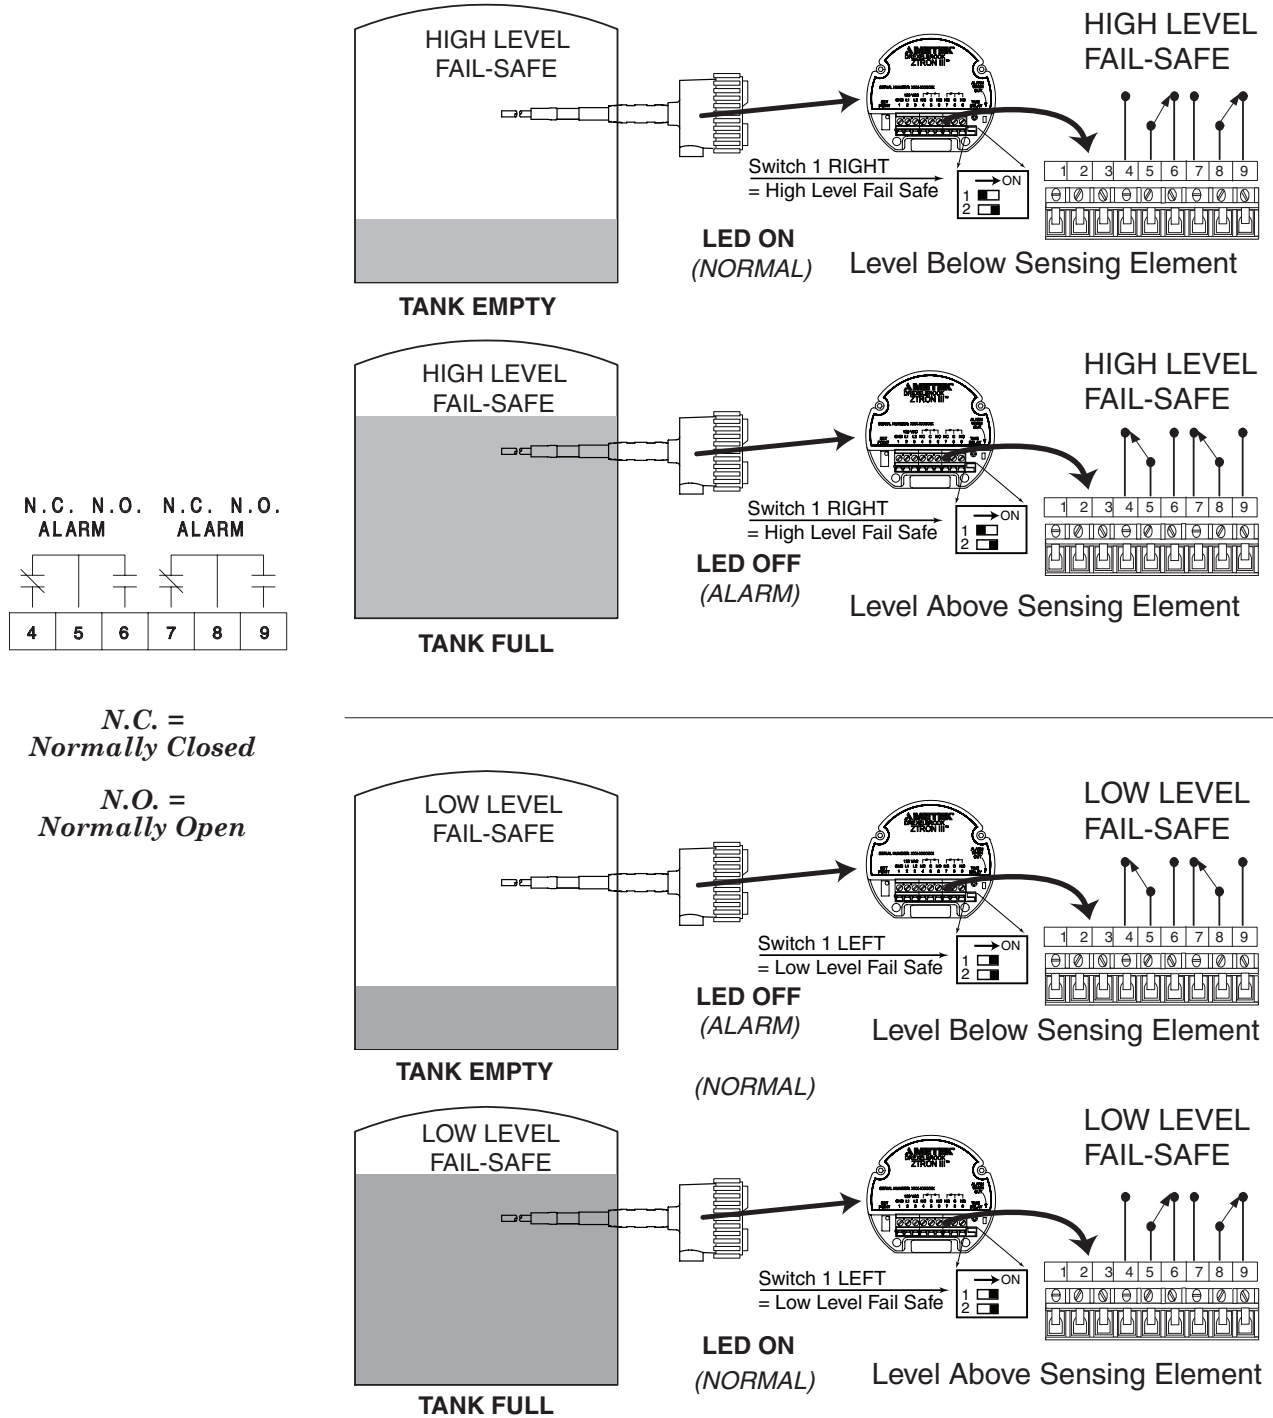

Figure 2-8
4. The alarm relays are wired as shown in Figure 2-8.
Refer to Figure 2-8 for the relay contact wiring. The Z-tron III relay has double-pole, double-throw (DPDT) dry contacts. The relay serves as a switch and does not provide the power to operate an annunciator or other equipment. All relay connections are made to the terminal strip on the electronic unit.
There is a single operating point adjustment used to control the level at which the relay operates. See Figures 2-8 & 3-1.